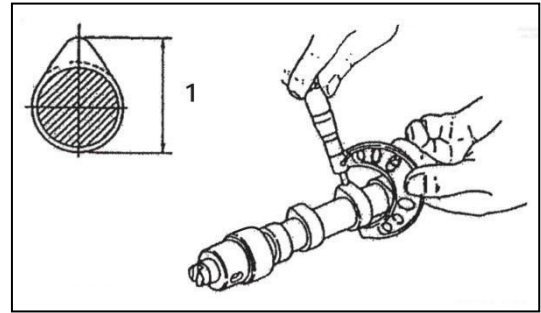

Figure 125
4. Measure the height of each lobe (Figure 125, 1). See the Camshaft specifications chart.